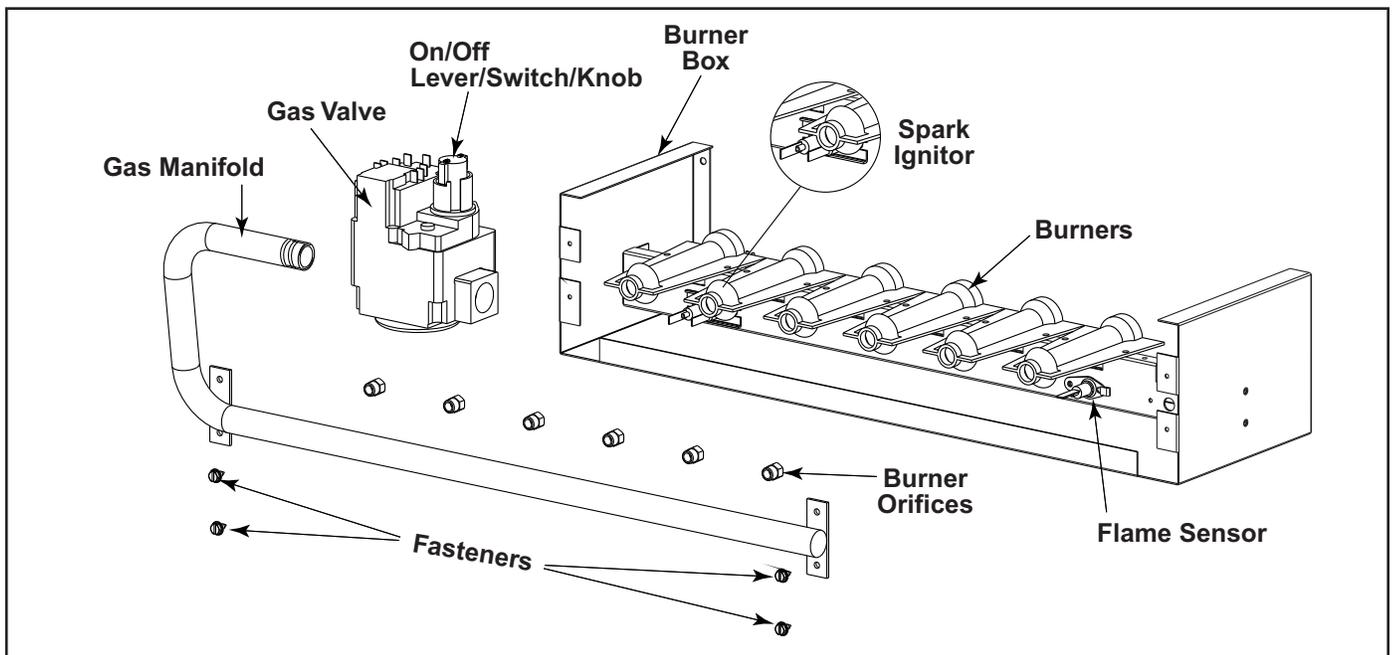

Figure 1. Typical Installation For R4GM Burner Box
5. Move the appliance gas valve lever/knob to the "OFF" position. See Figures 1 and 3.
6. Remove the four (4) fasteners that secure the gas manifold to the burner box, as shown in Figure 1. Carefully remove the gas manifold assembly from the burner box. Note that the gas manifold assembly consists of the gas valve, the gas manifold, and the orifices.